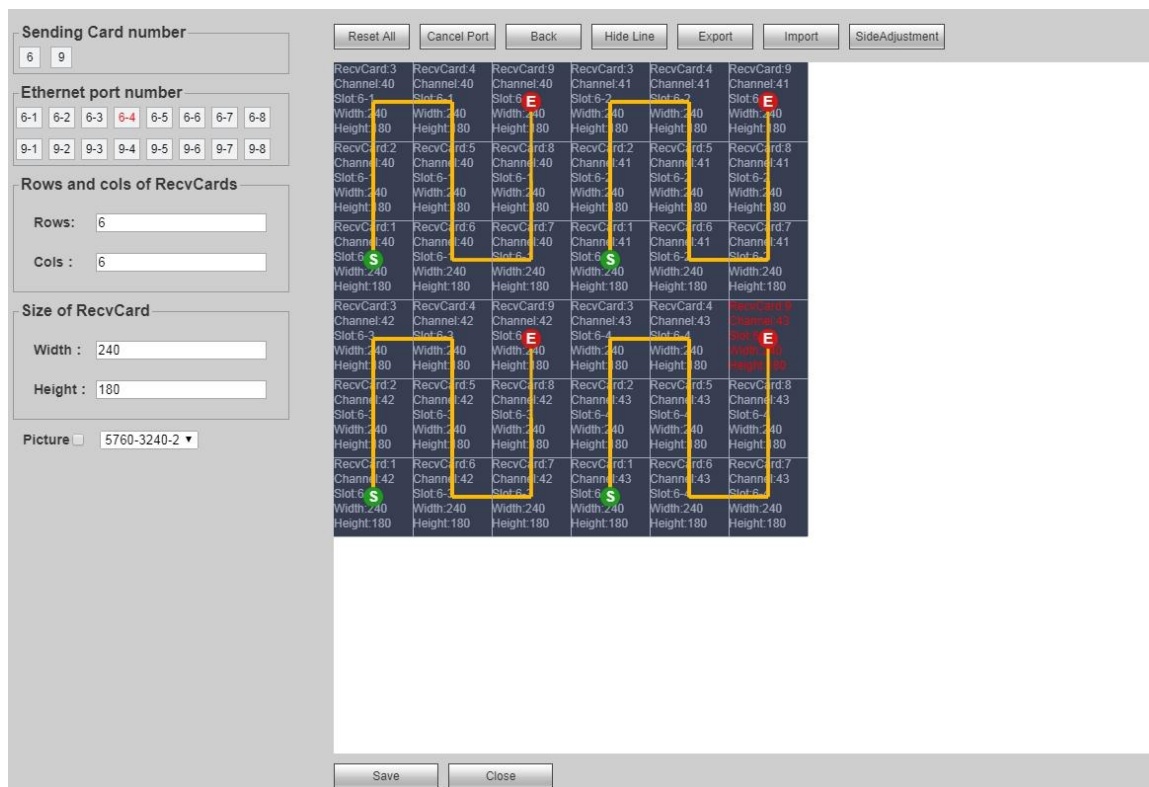

Figure 3-77
Step 8 (Optional) One Ethernet port can be bound with multiple receiving cards. Connect the receiving cards that want to connect Ethernet port according to on-site environment, as shown in Figure 3-77.